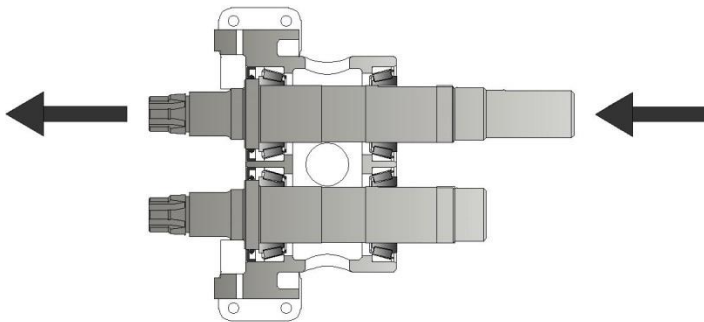

Figure 27 - Removing shafts
- Using a light press or soft hammer, drive out the shafts (24 & 25) towards the front (rotor case end) of the bearing housing (1) (Figure 27). This will push out the front oil seals (23).